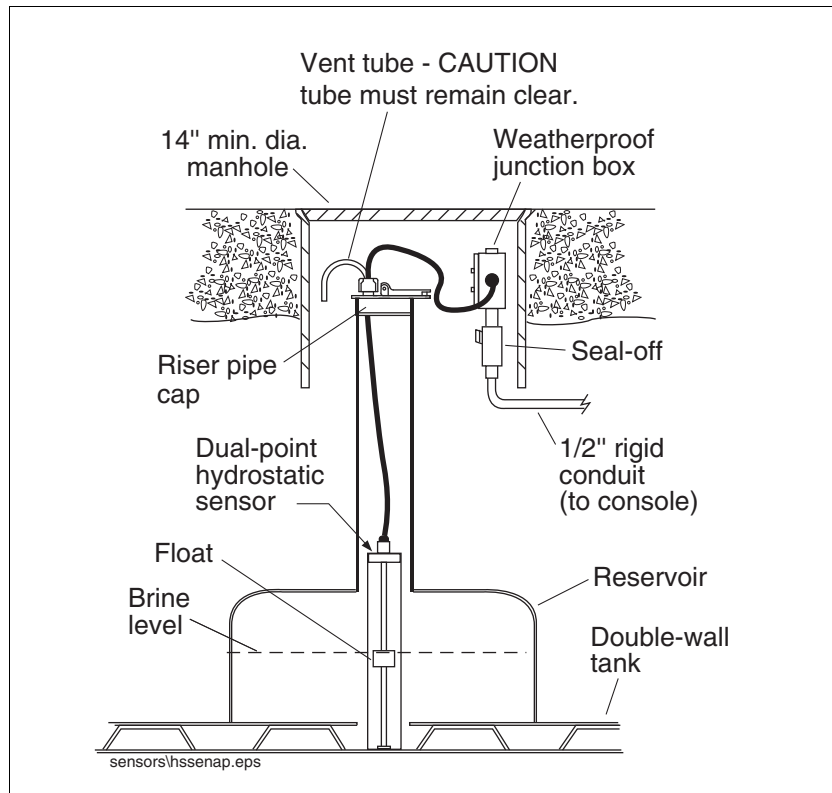

Figure 3. Dual-Point Sensor Installation
2. Lower the sensor into the riser until it rests on the bottom of the reservoir (see Figure 3). Note: Refer to the tank manufacturer's instructions for setting the proper brine levels. The ideal brine solution level is approximately halfway between the high and low water levels. With the Dual-Point Sensor resting on the inner-tank wall, the sensor will alarm when the brine level is below 2" or when the brine level is above 13".
3. Install a cord grip bushing/nut into one of the two riser cap fittings. Loosen the nut and push the straight end of the vent tube down through the bushing (ref. Figure 3) about an inch and tighten the cord grip nut. Insert the remaining cord grip bushing and nut from the riser cap kit in the other riser cap fitting. Push the sensor cable up through the loosened second cord grip. Place the cap in the riser and snap down the cap lever to seat the gasket against the inside of the pipe.